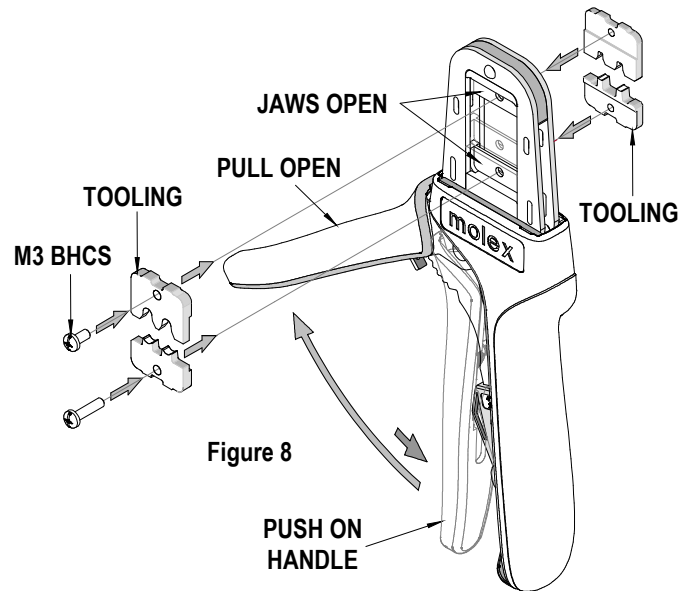

Figure 8
3. Flip the upper tooling to the opposite side, and replace the M3 BHCS. Make sure the small markings on the front and back of the hand tool match up and are on the outside of the hand tool frame. See Figures 8 and 9.